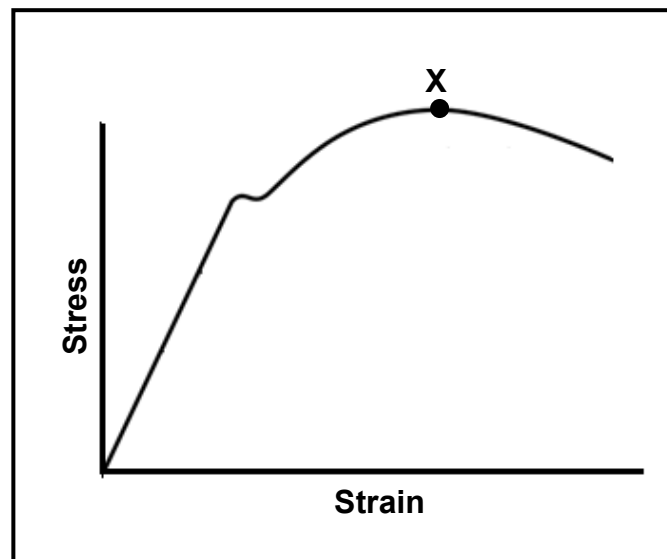

FIGURE 1.4
- D 34,7 kPa (1)
- 1.13 What does point **X** represent in the stress/strain diagram in FIGURE 1.4 below?